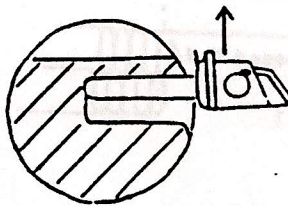
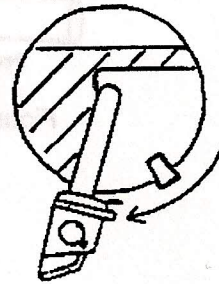

Figure 12b
Figure 12c
- 32 Saw forward to the correct hinge width (Fig 12b) then saw backwards in an arc to complete them main felling cut, taking care to leave an intact parallel hinge (Fig 12c & d).
- 33 Alternatively make the first part of the main felling cut by sawing forward parallel to the sink to correct hinge width as at Fig 8. Complete the felling cut by sawing in an arc as at Figs 12c - d.